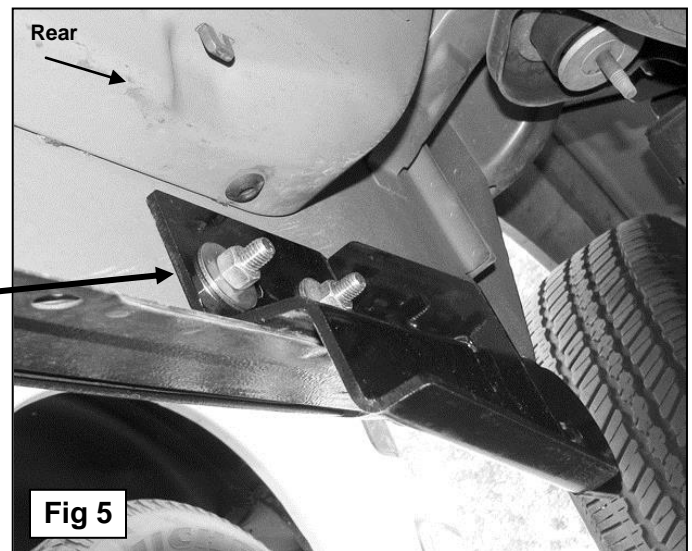

Fig 5
5. Select the passenger side Rear Mounting Bracket and attach it to the Double Bolt Plate with (2) 12mm Flat Washers, (2) 12mm Lock Washers and (2) 12mm Hex Nuts, (Figure 5). Snug all hardware but do not tighten at this time.